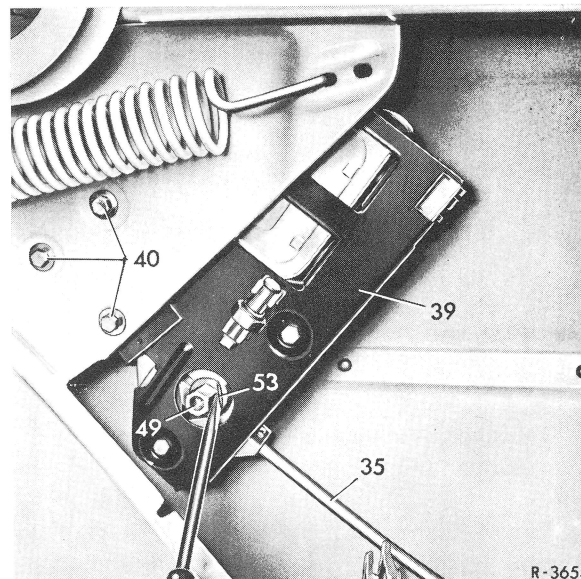

Fig. 1 (shown on Model 114/115)
- 2 Separate outlet pipe (35) from gear unit.
- 3 Loosen fastening screws (40) of holder (39) (Fig. 1).
- 1 Loosen lock (53) of counter nut (49) on gear unit and unscrew counter nut.
- 2 Remove holder (39) (Fig. 1).